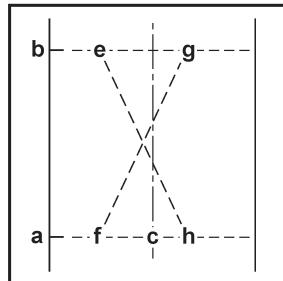
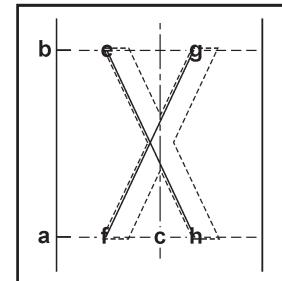

Figure 40
Figure 41
- Snap a chalk line diagonally across the lane from point "e" to point "h", and from point "f" to point "g". The left edge of the tape will be applied on points "e, f, g, and h" (see Figure 40).
- Apply one coat of E-44T to the pavement in the area shown in Figure 40. Make sure the adhesive extends at least 1 inch beyond the edges of where the tape will be positioned. Let the adhesive dry until tacky (see Figure 41).